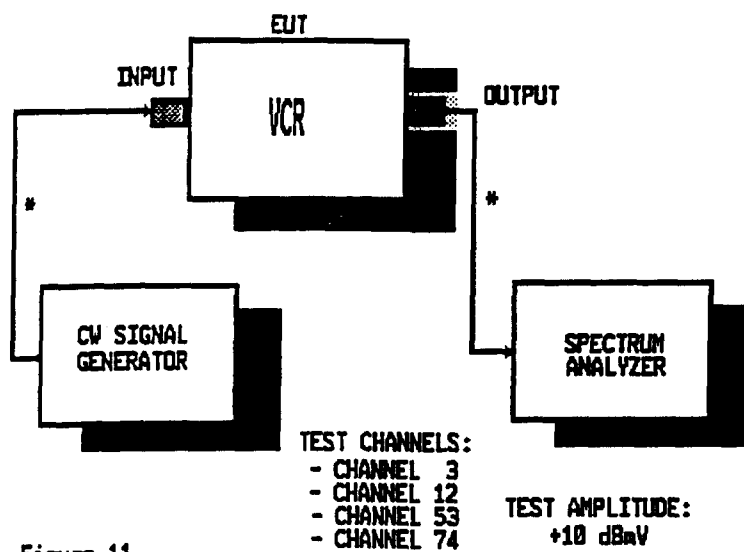

Figure 11
1. Verify that the test system is configured as shown in Figure 11 _____.